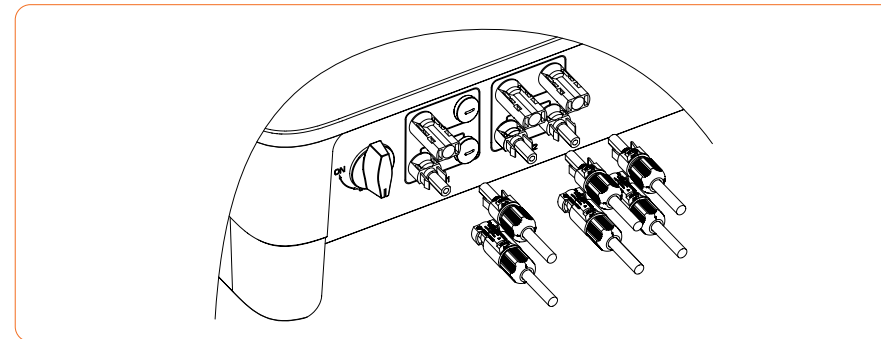

Figure 4-14
② Use a multimeter to measure the voltage of the DC input string, verify the polarity of the DC input cable, and ensure that each string voltage is within 600V.
③ Do not connect inverter with functionally earthed PV Arrays.
3. Insert the positive and negative connectors into the inverter DC input terminals respectively, and a "click" sound represents the assembly in place, as shown in Figure 4-14: